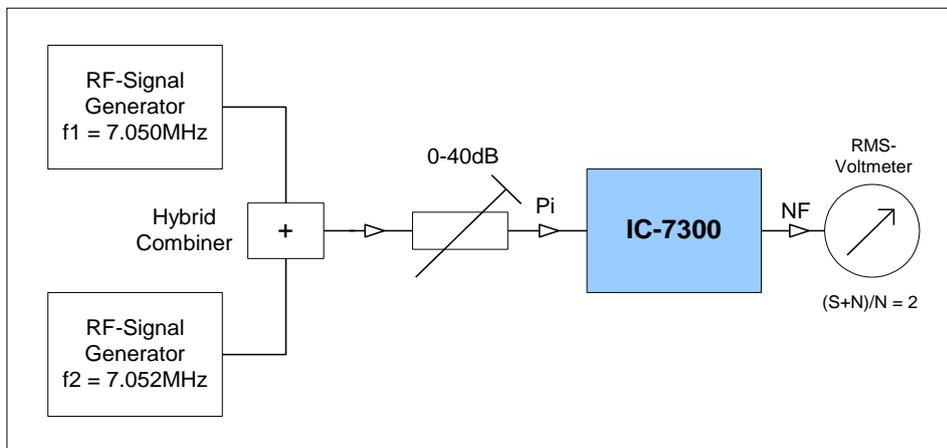

Figure 6: Test setup for IMD measurement
To determine the IMD3 power level, an RF 2-tone signal is used as standard (Fig. 6) (2). Two equally large, closely-spaced RF signals ($f_1 = 7.050\text{MHz}$, $f_2 = 7.052\text{MHz}$), are applied to the RF input of the receiver and their level is increased until the unwanted IMD3 interference at $(2f_1 - f_2)$ and $(2f_2 - f_1)$ reaches the same level as the receiver noise floor, corresponding to 3dB above the noise floor. The difference between input level (P_i) and noise floor (MDS) gives the IMD-free dynamic range (DR3) of the receiver. This value is also termed IFSS (Interference Free Signal Strength), VA70J/AB40J.